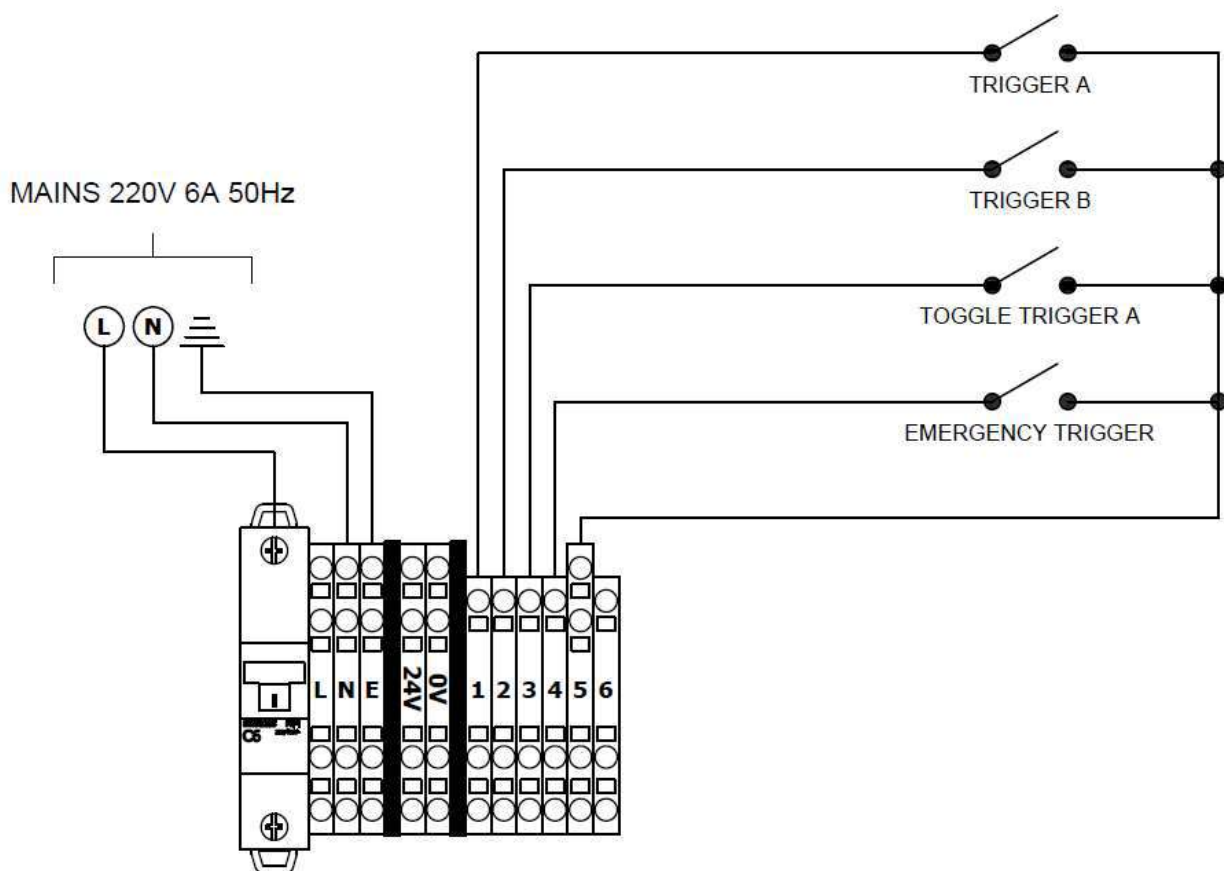

Figure 6: Client trigger connections
5.3. Connect 220v AC live power as shown in the diagram *Figure 6:* .